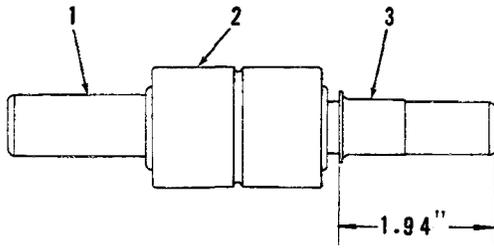

FIG. 9 SHAFT, BEARING AND SLINGER ASSEMBLY
- Model 2900 only. Refer to Fig. 9; position slinger 1.94" (49.27mm) from the end of the shaft before installing shaft in the pump body.